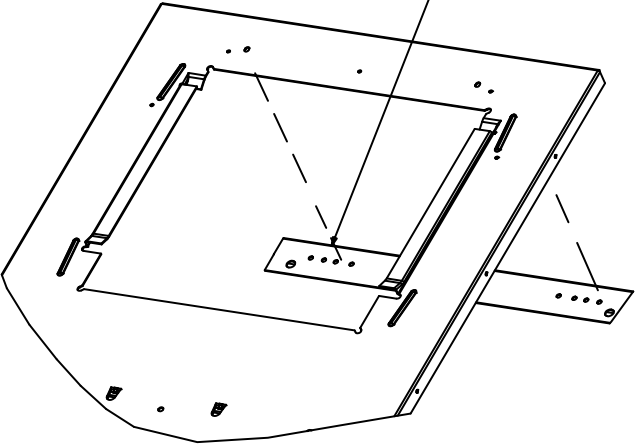

FIGURE 6
- 22 - If the furnace came with a blower deck support bracket as shown in figure 6, remove and discard.